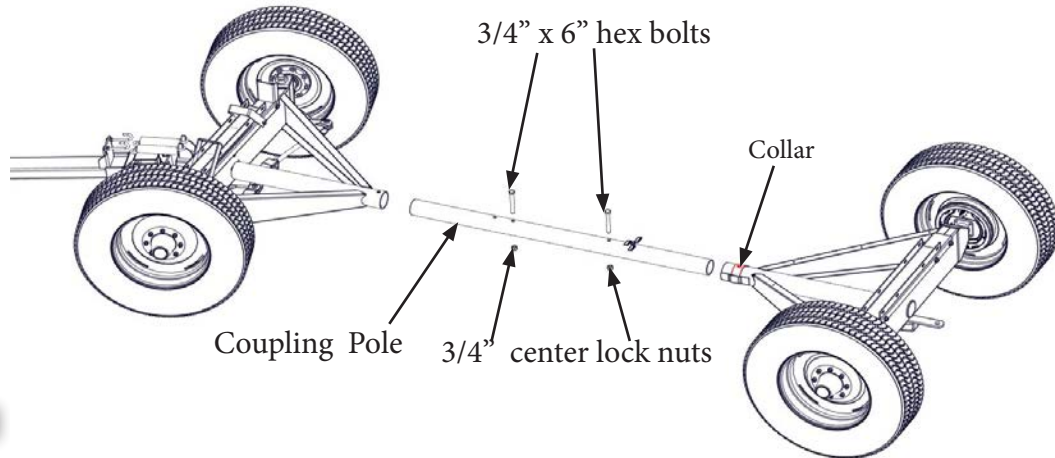

Fig. 1
- Using (4) 3/8" x 1" SF bolts and nuts, attach the Center Divider Board to the center of the Gravity Wagon.
- Attach the Divider Board Mounting Brackets to the Center Divider Board using (4) 3/8" x 1" SF bolts and nuts.
- Attach one of the long sideboards to the left side of the Wagon using (4) 3/8" x 1" SF bolts and SF nuts. Repeat for the right side. Now using (2) 3/8" x 1" SF bolts and SF nuts attach the front and rear sideboards.
- Attach the Center Divider Board to the left and right side boards using (4) 3/8" x 1" SF bolts, (4) 1/2" x 2-1/4" Flat Washers, and (4) 3/8" SF nuts. (Figure 1)
- Attach the Center Sidebrace to the left and right side boards using (4) 3/8" x 1" SF bolts, (4) 1/2" x 2-1/4" Flat Washers, and (4) 3/8" SF nuts. (Figure 1)
- Slide the coupling pole into the front and back assemblies, slipping the collar in the back assembly. The distance between the holes of the Front and Rear Running Gears should be approximately 24". (Figure 1)
- Insert (2) 3/4" x 6" hex bolts and 3/4" center lock nuts in to the Coupling Pole.